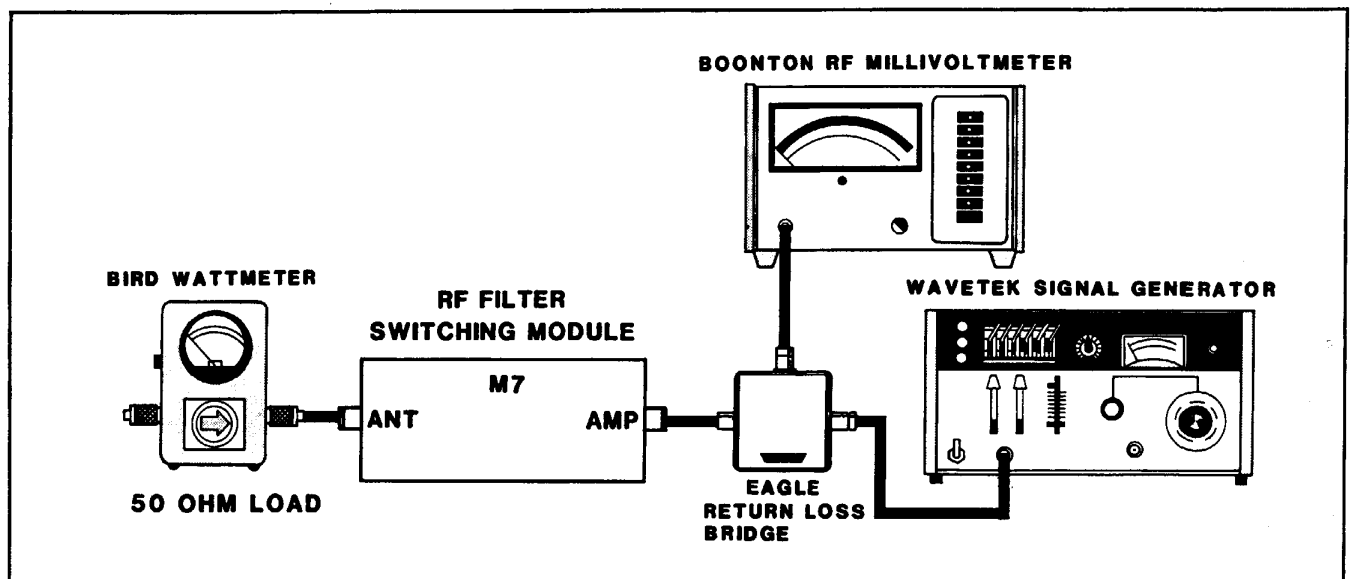

FIGURE 10.7-1. Filter Alignment.
**Filter Alignment**—The output filters are aligned in the factory and should not require adjustment during the service life of the transceiver. If a filter inductor is damaged and replaced, it may be necessary to check the filter operation. This does require the use of a return loss bridge and signal generator. The equipment is connected as shown in Figure 10.7-1.